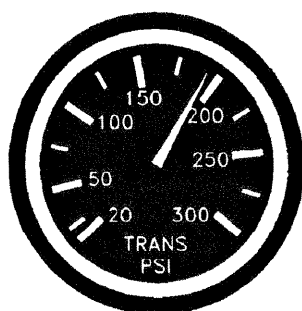

Fig. 3-8 Transmission Circuit Pressure Gauge
9. Transmission Circuit Pressure Gauge See Fig. 3-8